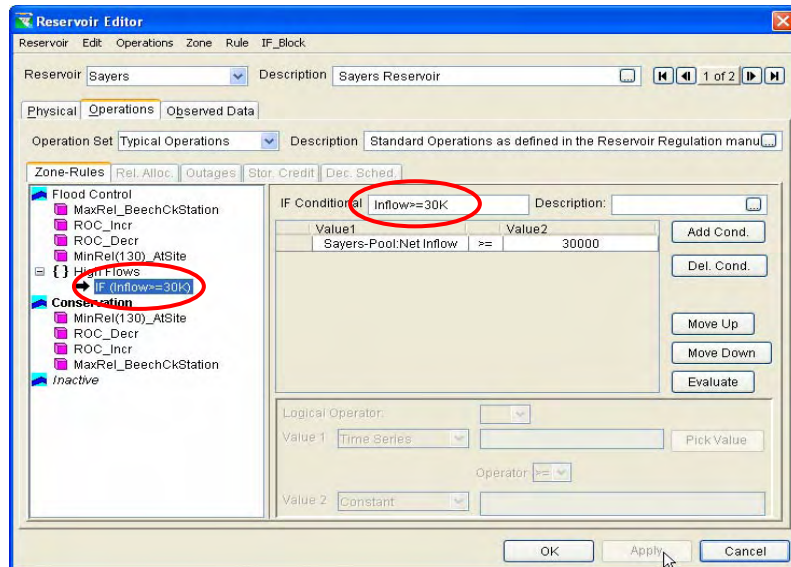

Figure 11.68 Conditional Test Editor – Apply Label to Conditional Test
- The next step is to give the Conditional Test a label and description and press the **Apply** button (as shown in Figure 11.68).